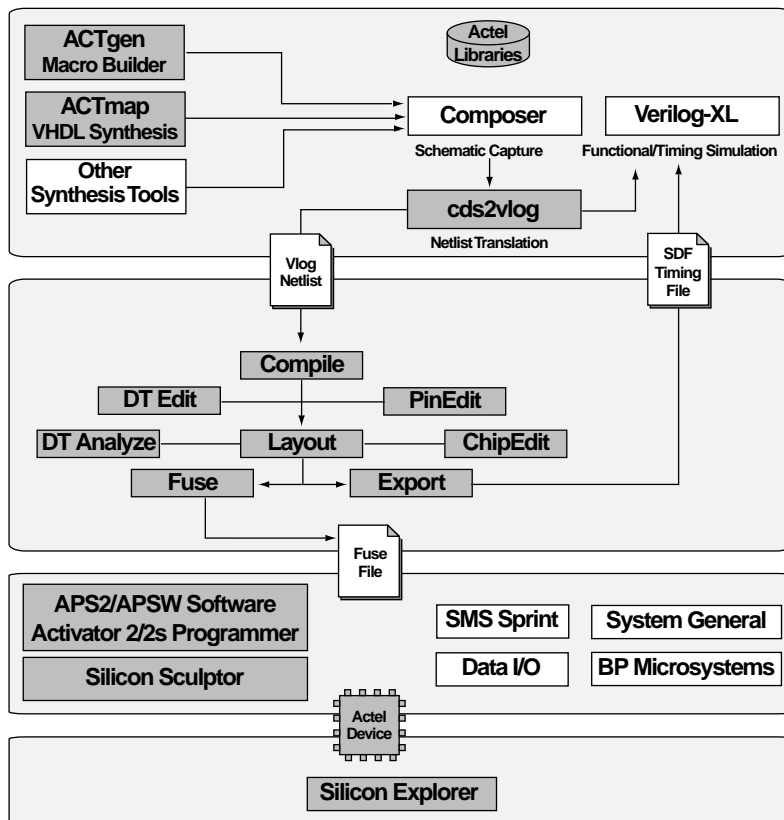

Figure 2-3. Composer/Verilog-XL Design Flow
Figure 2-3 shows the schematic-based design flow for an Actel FPGA using Designer software and Composer schematic capture software.1
1. Actel-specific utilities/tools are denoted by the grey boxes in Figure 2-3.